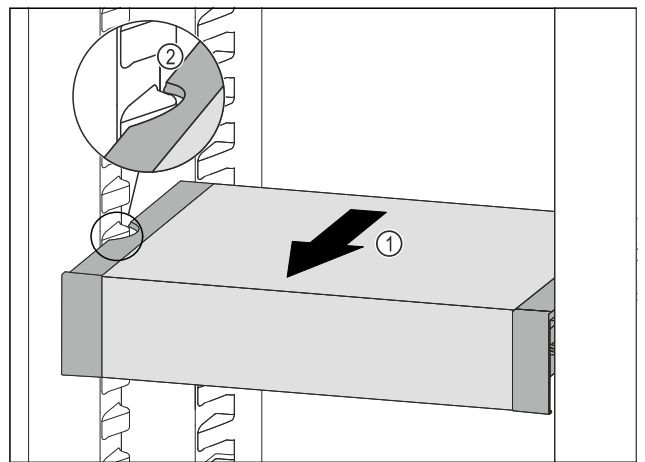

Fig. 148
- ▶ Pull VarioSafe forwards Fig. 148 (1) until the recesses in the side of the VarioSafe are at the level of the support rib in the fridge section. Fig. 148 (2)